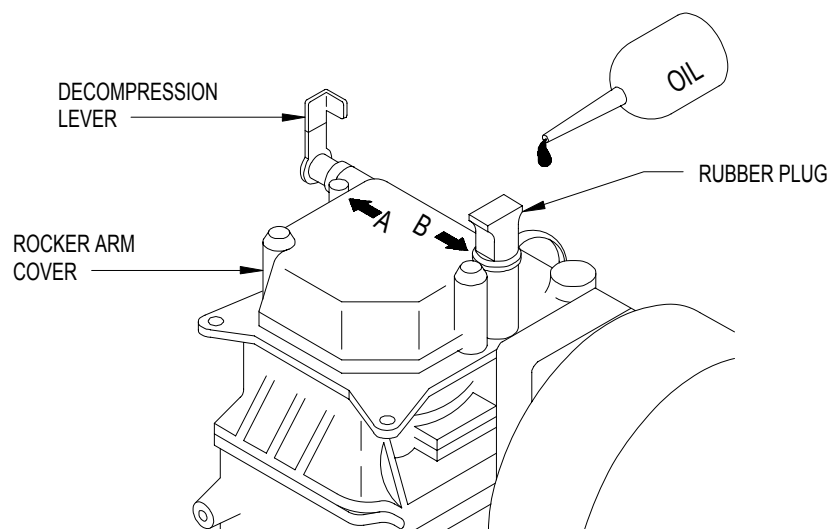

Figure 2-8. Adding Oil – Cylinder Head Cover Opening
Be sure to install the rubber plug (Figure 2-8) in the cylinder head cover opening after adding oil. Leaving the hole unplugged can lead to premature diesel engine failure as water, dirt, and debris entering the hole can damage internal parts. Do not add more than the specified amount of engine oil through the cylinder head cover.
- (10) Remove rubber plug "B" (Figure 2-8) in cylinder head cover and add 2 ml ($\frac{1}{4}$ to $\frac{1}{2}$ teaspoon) of clean engine oil, MIL-PRF-2104, 15W40. Install rubber plug.